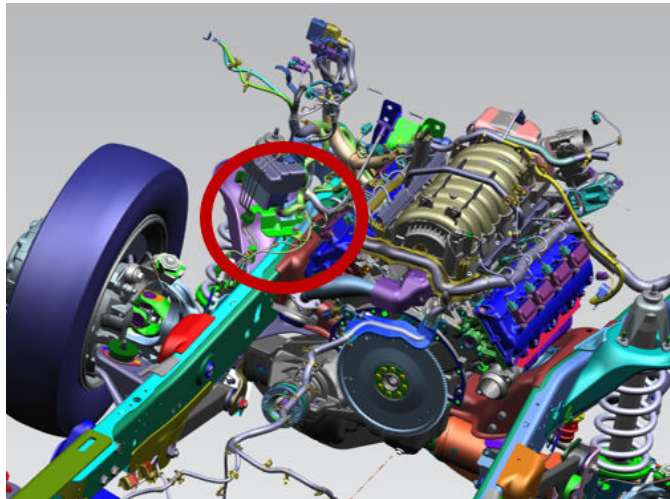

Fig. 1
1. Remove the left front wheelhouse splash shield to gain access to the wheel speed wiring harness inspection area Fig. 1. Refer to the detailed service procedures available in DealerCONNECT/Service Library under: Service Info> 23 - Body / Exterior / Shield, Splash, Front Wheelhouse / Removal.